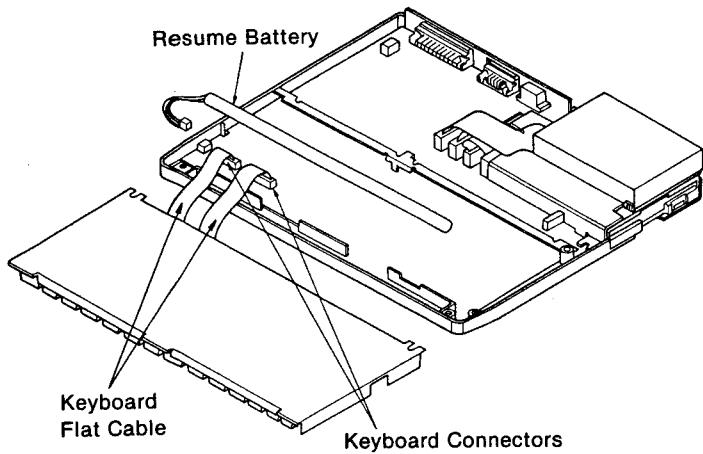

Figure 16
- (3) Remove the resume battery and then disconnect keyboard connectors as shown in Figure 16.